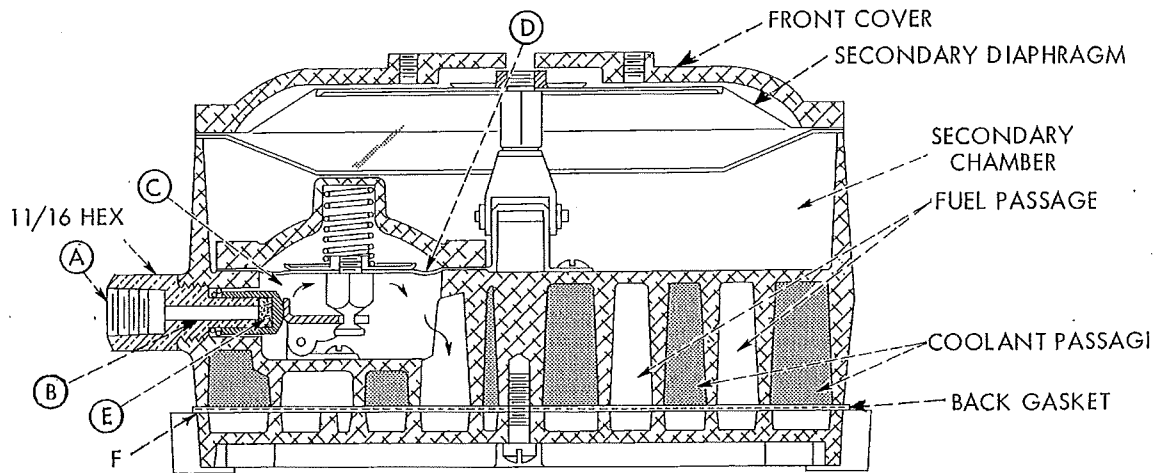

FIGURE 1
1. Primary (High Pressure) Regulator – Figure 1
2. Heat Exchanger – Figures 1 & 2